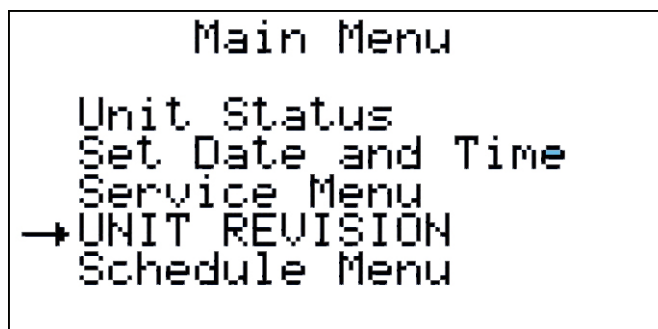

Figure 16
2.3 Main Menu (Figure 16)
Pressing the **Esc** key from the Home Screen displays the MAIN MENU (Figure 16). This menu allows the operator to select the UNIT STATUS, SET DATE AND TIME, SERVICE MENU, or UNIT REVISION menus. If a Growcycle schedule is enabled, the SCHEDULE MENU will also be shown.